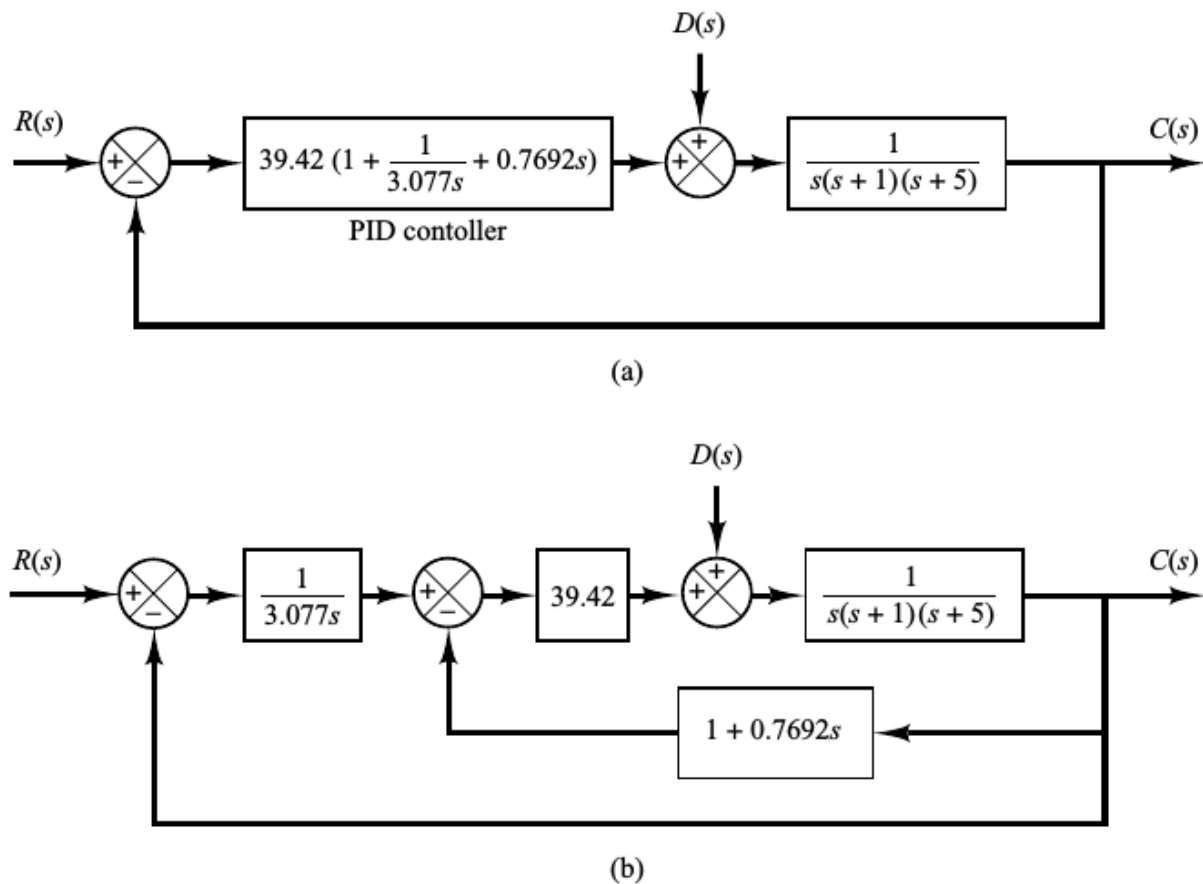

**Figure 8-71**
5) B-8-2. Consider the system shown in Figure 8-71. Assume that disturbances  $D(s)$  enter the system as shown in the diagram. Determine parameters  $K$ ,  $a$ , and  $b$  such that the response to the unit-step disturbance input and the response to the unit-step reference input satisfy the following specifications: The response to the step disturbance input should attenuate rapidly with no steady-state error, and the response to the step reference input exhibits a maximum overshoot of 20% or less and a settling time of 2 sec.